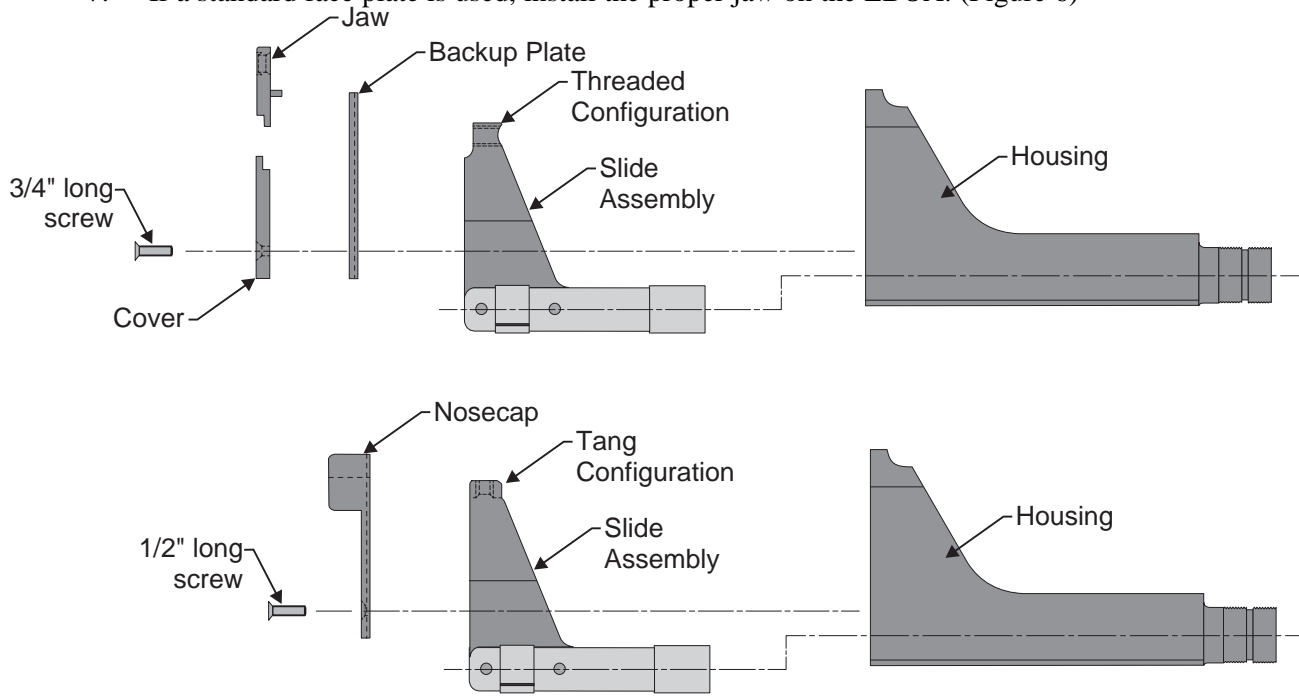

Figure 6
- Remove face plate from LBOA and insert slide assembly into housing. (Figure 6)
- Install proper face plate, special jaw plate or special nosecap spacer. (Figure 6)
- If a standard face plate is used, install the proper jaw on the LBOA. (Figure 6)